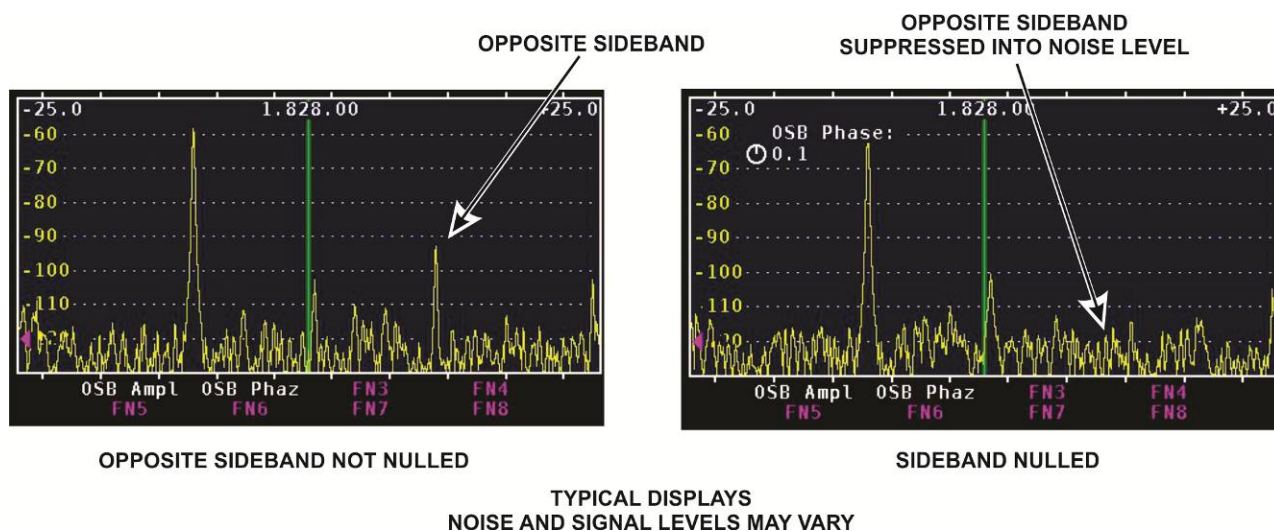

Figure 20. Typical Opposite Side Band Signal Displays.
- Switch your KX3 to 160 meters and tune to a frequency 10 kHz *above* that of the signal generator. That is, if your signal source is at 1.818 kHz, tune the KX3 to 1.828 kHz. You should see a strong signal to the left of the center cursor and, if the opposite sideband is not completely suppressed, you will see a weaker signal the same distance to the right of the center cursor (see Figure 20). The weaker signal to the right is the opposite sideband. If you are using the internal PX3 signal source, adjust the coupling to the KX3 antenna input as needed for an easily visible signal level.